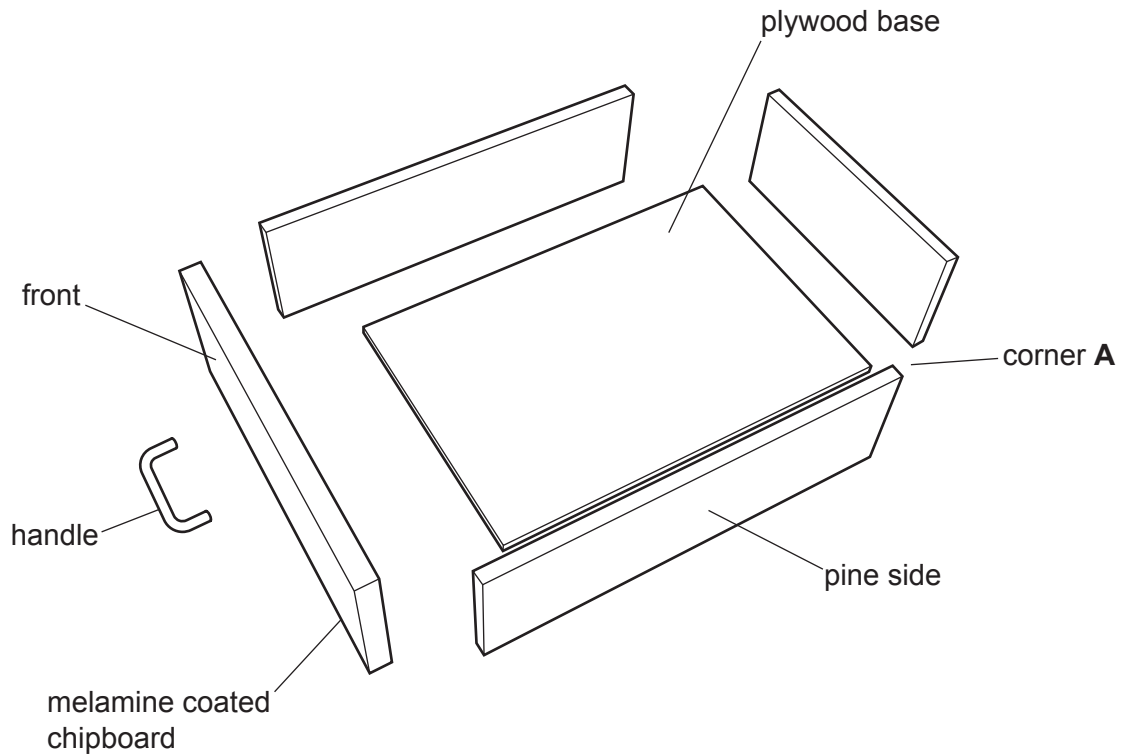

Fig. 1.1
- 1 Fig. 1.1 gives details of a drawer which is to be made in a school workshop.